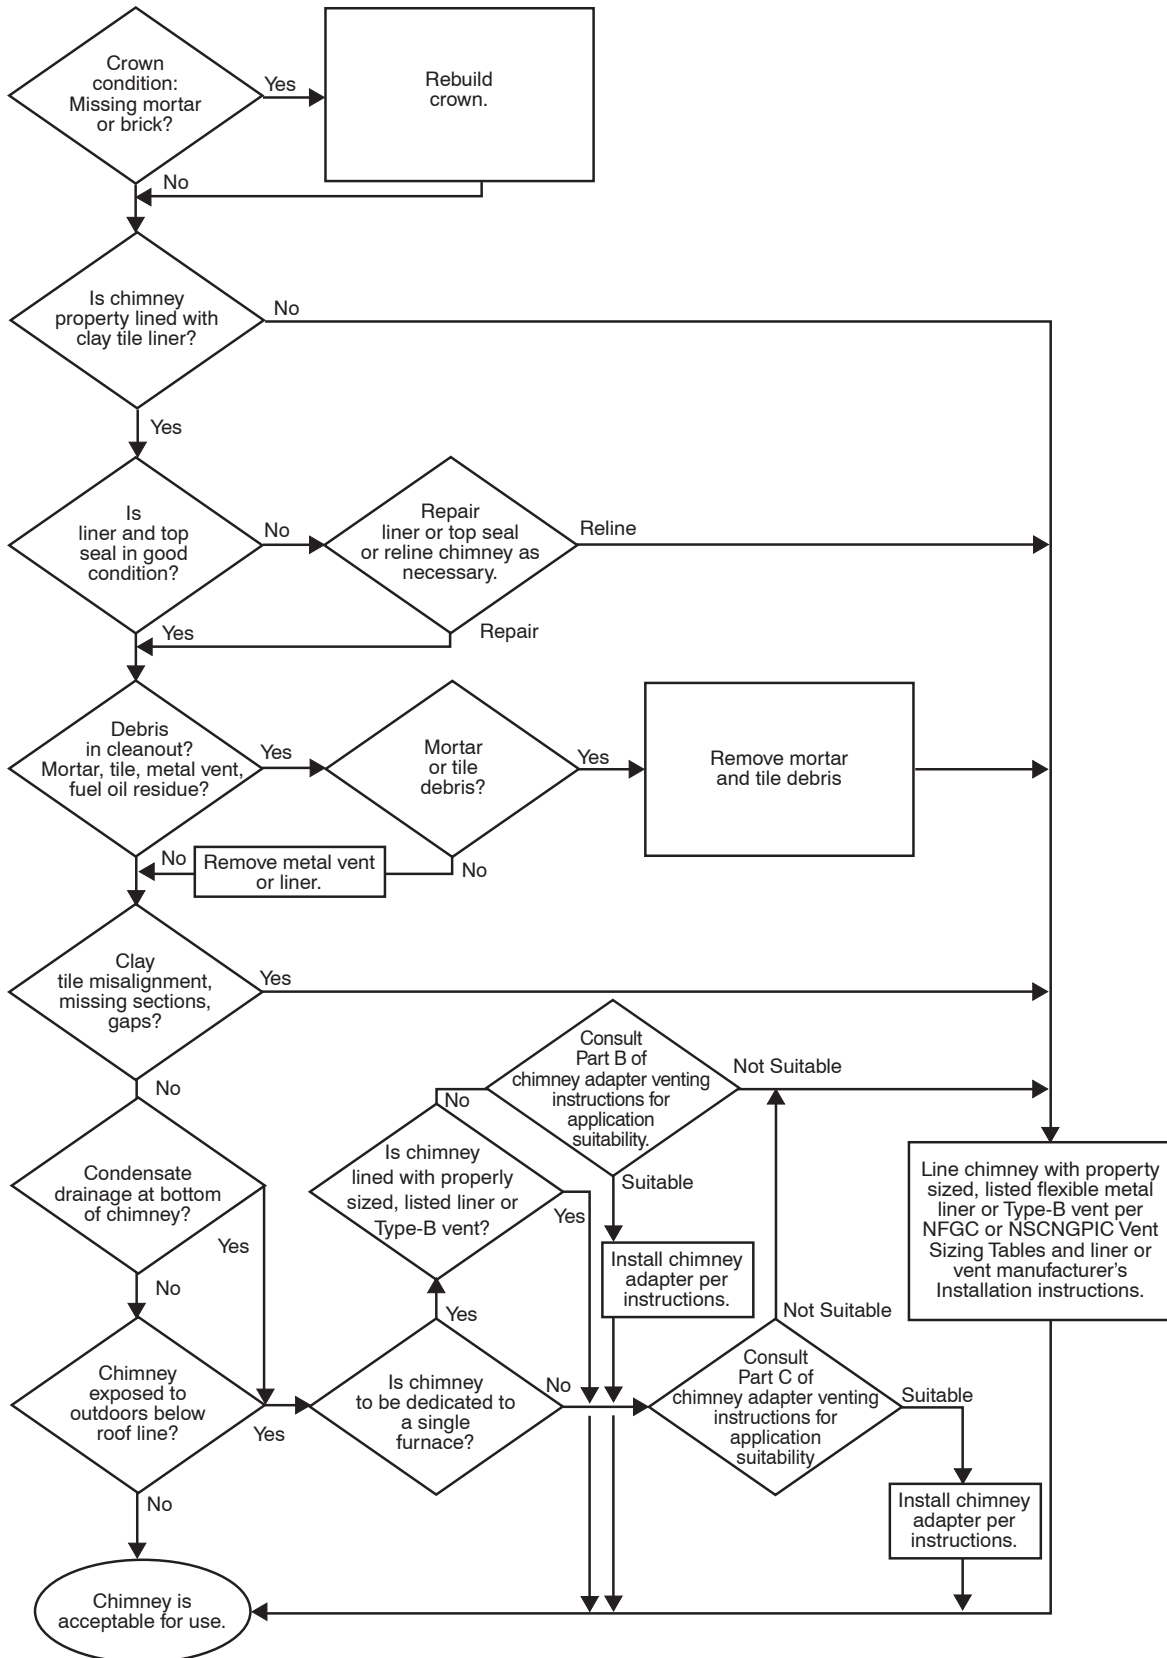

Fig. 33 - Chimney Inspection Chart
6. Do not vent this appliance into an unlined masonry chimney. Refer to Chimney Inspection Chart, Fig. 33.
Inspections before the sale and at the time of installation will determine the acceptability of the chimney or the need for repair and/or (re)lining. Refer to the Fig. 33 to perform a chimney inspection. If the inspection of a previously used tile-lined chimney: